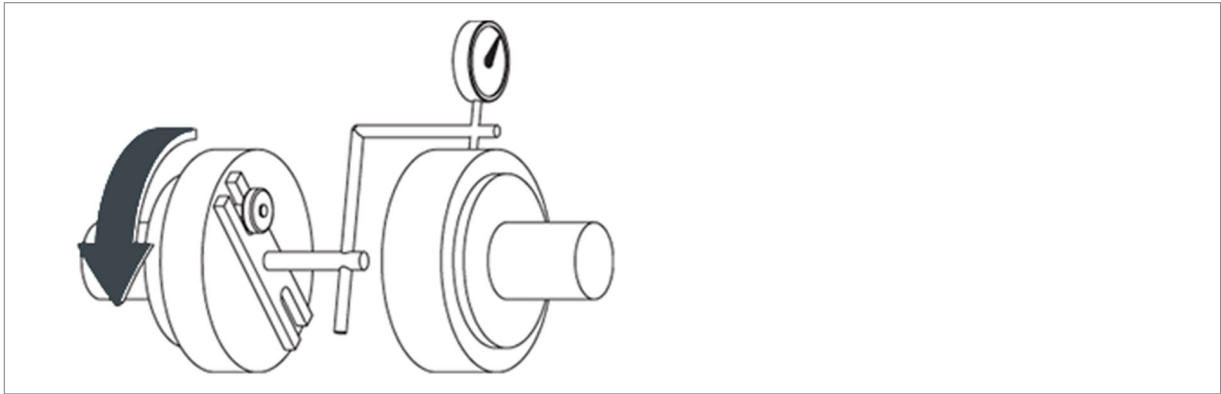

Fig. 20: Checking the lateral and height offset
- Carry out measurement as shown (Fig. 20).